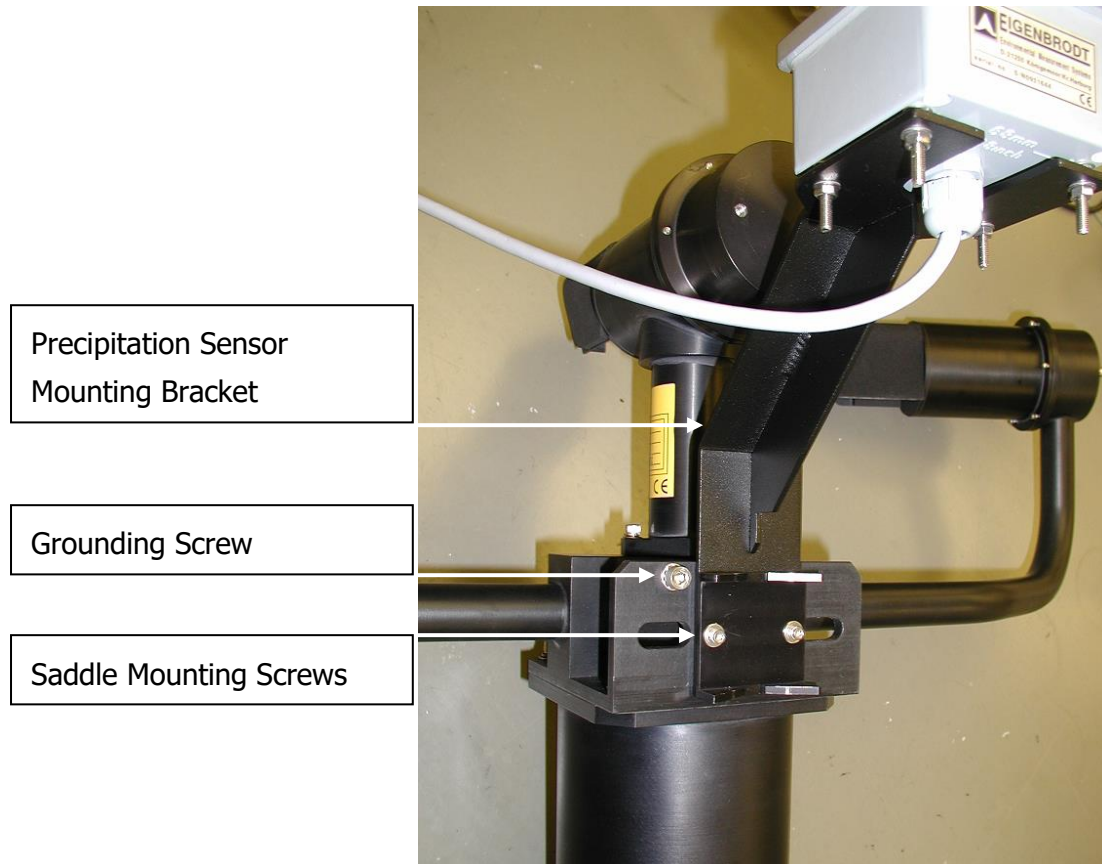

Figure 1-8 Precipitation Sensor Mounting Details
On the rear of the present weather sensor, unscrew the small saddle which locates the system onto the mounting pole. Place the appropriate end of the Precipitation Sensor mounting bracket under this saddle and replace. This will locate the Precipitation Sensor immediately behind the back-scatter head as shown in Figure 1-8 Precipitation Sensor Mounting Details.
(1) Ground Rod: A 2.5m ground rod should be used to make contact with moist soil during even the driest periods.
(2) Lead Lengths: No. 6 AWG solid copper wire should be used to connect the sensor and thus the transient voltage suppressers to the ground rod. Use the shortest and most direct paths to the ground. Simply connect the ground lead to the grounding screw provided on the front of the lower mounting flange of the sensor (Figure 1-8 Precipitation Sensor Mounting Details).
(3) System Interconnections: Eliminate all isolated ground loops. The shield of the signal output cable, for example, should be attached only at one end of the cable and left floating at the other end. Preferably, it should be attached to ground at the sensor end of the signal cable.
(4) Connections: Use tight, corrosion-proof bare metal connections throughout the grounding system.